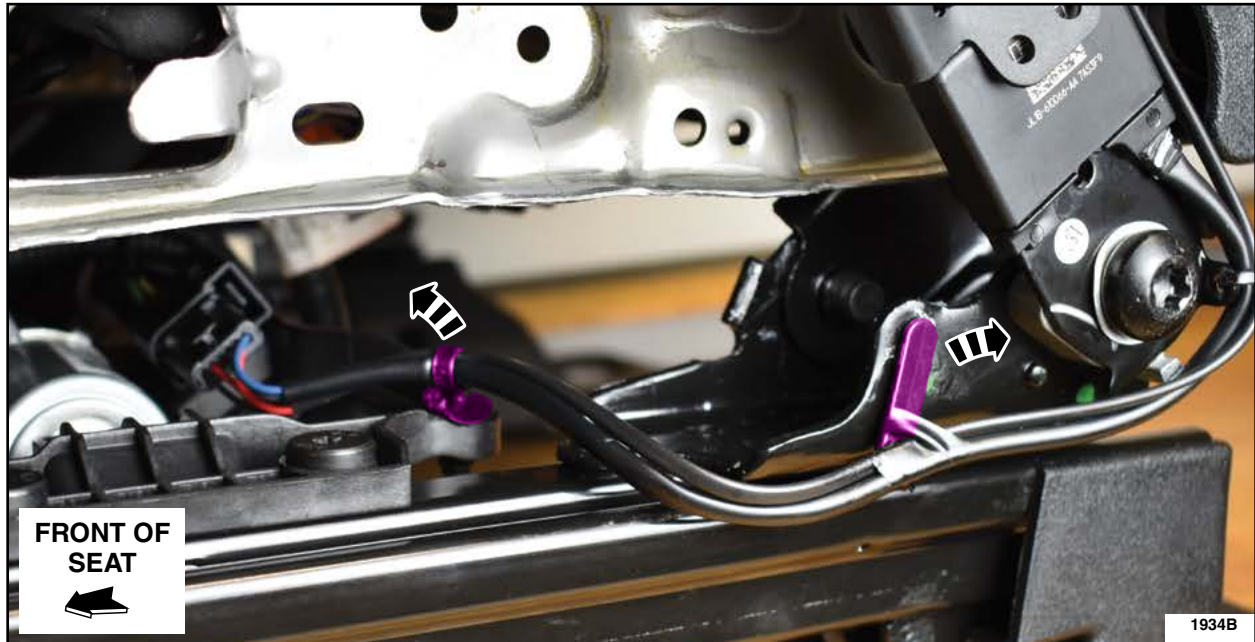

FIGURE 2
2. Detach both of the wiring harness retainers from the seat track assembly. See Figure 2.
8. Attach both of the wiring harness retainers to the seat track assembly. See Figure 2.